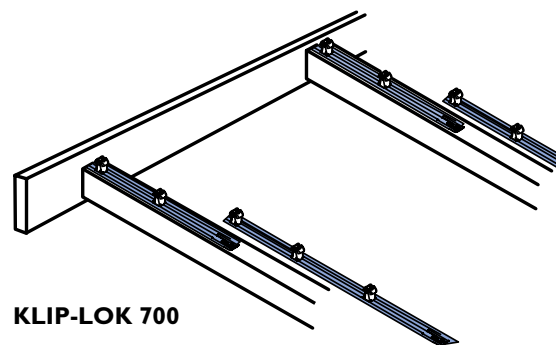

Figure 3
- 2 Position the first clips on each support by placing onto the support nearest the gutter. (Figure 3)